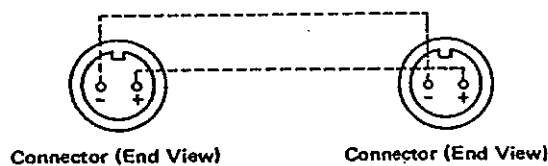

Figure 2.4. Twin-axial Polarities
2.3.8.3 Refer to Figure 2.4 for twin-axial connector polarity. This polarity configuration must be maintained to obtain correct signal distribution.